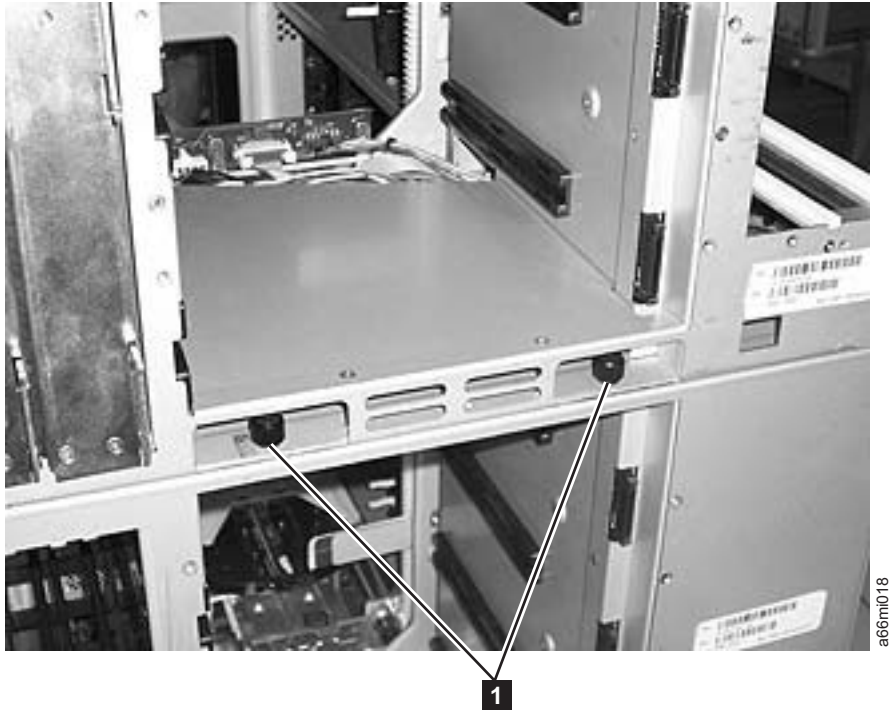

Figure 3-24. Rear thumb screws
12. Tighten the rear thumb screws (**1** in Figure 3-24 on page 3-26) that secure the upper module to the lower module.